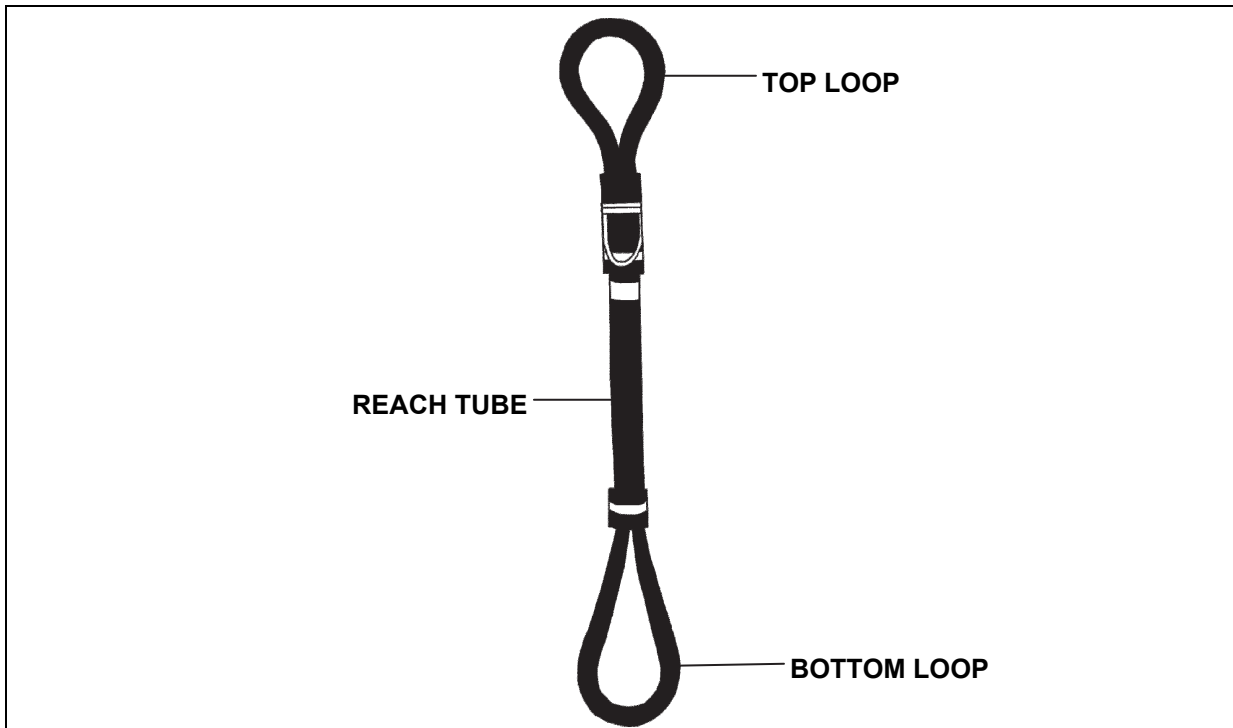

Figure 8-29. 11,000- and 25,000-Pound Capacity Reach Pendants
(figure 8-29). Remove the sling set apex fitting pin; place the pendant lower eye in the apex fitting; and reinstall the apex fitting pin to use the pendant with a sling set.
- **The 25,000-Pound Capacity Reach Pendant.** The 25-K, NSN 4020-01-337-3185, part no. BOS-14-K7, is a reach pendant approximately 5 feet long with a 25,000-pound safe working load capacity. The top eye is black and has a smaller diameter loop, while the bottom eye is black with a larger diameter loop. The safe working load capacity is stamped on the reach tube (figure 8-29). Remove the sling set apex fitting pin; place the pendant lower eye in the apex fitting; and reinstall the apex fitting pin to use the pendant with a sling set.